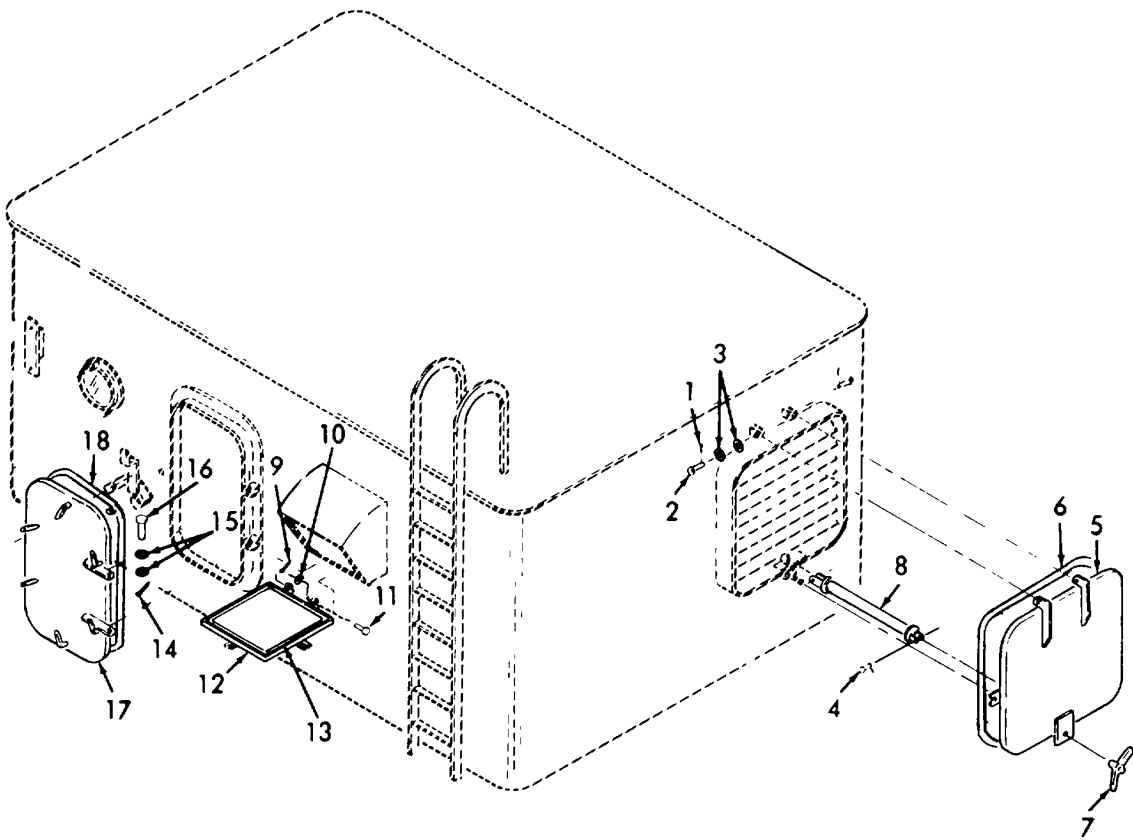

Figure 4-2. Doors, Removal/Installation.
a. Removal. (Refer to figure 4-2).
- (1) Remove two cotter pins (1), two pins (2), and four washers (3).
- (2) Remove toggle bolt (4) and remove door (5), gasket (6), wing nut (7), and support (8).
- (3) Remove two cotter pins (9), two washers (10), two pins (11), door (12), and gasket (13).
- (4) Remove two cotter pins (14), four washers (15), two pins (16), door (17), and gasket (18).